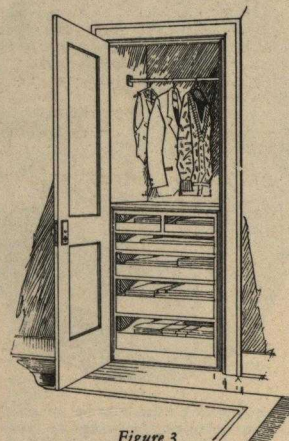

Figure 3
Lower Section—Four large trays and two narrow ones are provided for Lower Section. All parts are machined at factory ready for quick assembling. Tray slide frames are built-up complete. Lower Section can be used independent of Upper Section as shown in Figure 3. When used as in Figure 3, the counter top will fit a closet 3' 6" wide as it is furnished longer than needed for ordinary use so it will cover space on either side of cabinet behind casing. Carton packed, 95 lbs.
4. If base section is being used alone in closet (see Figure 3 on page 19) put cabinet in closet and attach Top No. 4. Turn dadoes (slots) down as explained above. Top is furnished with sufficient projection to fit a closet 3' 6" wide (or less) although the door opening would be only 2' 6".